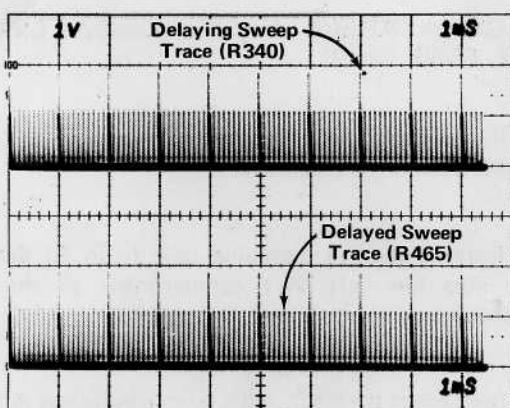

Fig. 4-4. Typical display when adjusting delaying and delayed sweep length (R340, R465).
c. Rotate the TRACE SEP control fully clockwise and rotate the POSITION control to place the second one-millisecond marker on the first graticule line (see Fig. 4-4).
d. CHECK—Delayed sweep trace for sweep length of 10.4 divisions (within 0.3 divisions) as shown by one to seven 0.1 millisecond markers to the right of the tenth vertical graticule line. The lower trace is the delayed sweep trace (see Fig. 4-4).
e. ADJUST—R465, Delayed Sweep Length, for four 0.1 millisecond markers to the right of the tenth graticule line (see Fig. 4-4).
f. CHECK—Delaying sweep trace for sweep length of 10.4 divisions (within 0.3 divisions) as shown by one to seven 0.1 millisecond markers to the right of the tenth vertical graticule line. The upper trace is the delaying sweep trace (see Fig. 4-4).
g. ADJUST—R340, Delaying Sweep Length, for four 0.1 millisecond markers to the right of the tenth graticule line (see Fig. 4-4).